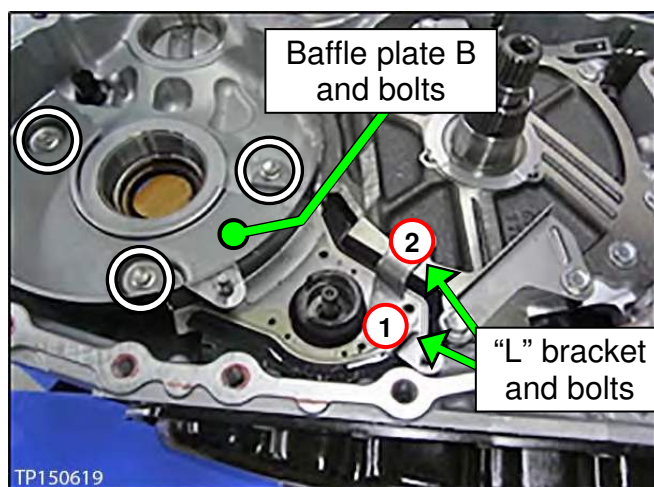

Figure 6l
6. Install baffle plate B and “L” bracket with the related bolts finger tight (Figure 6l).